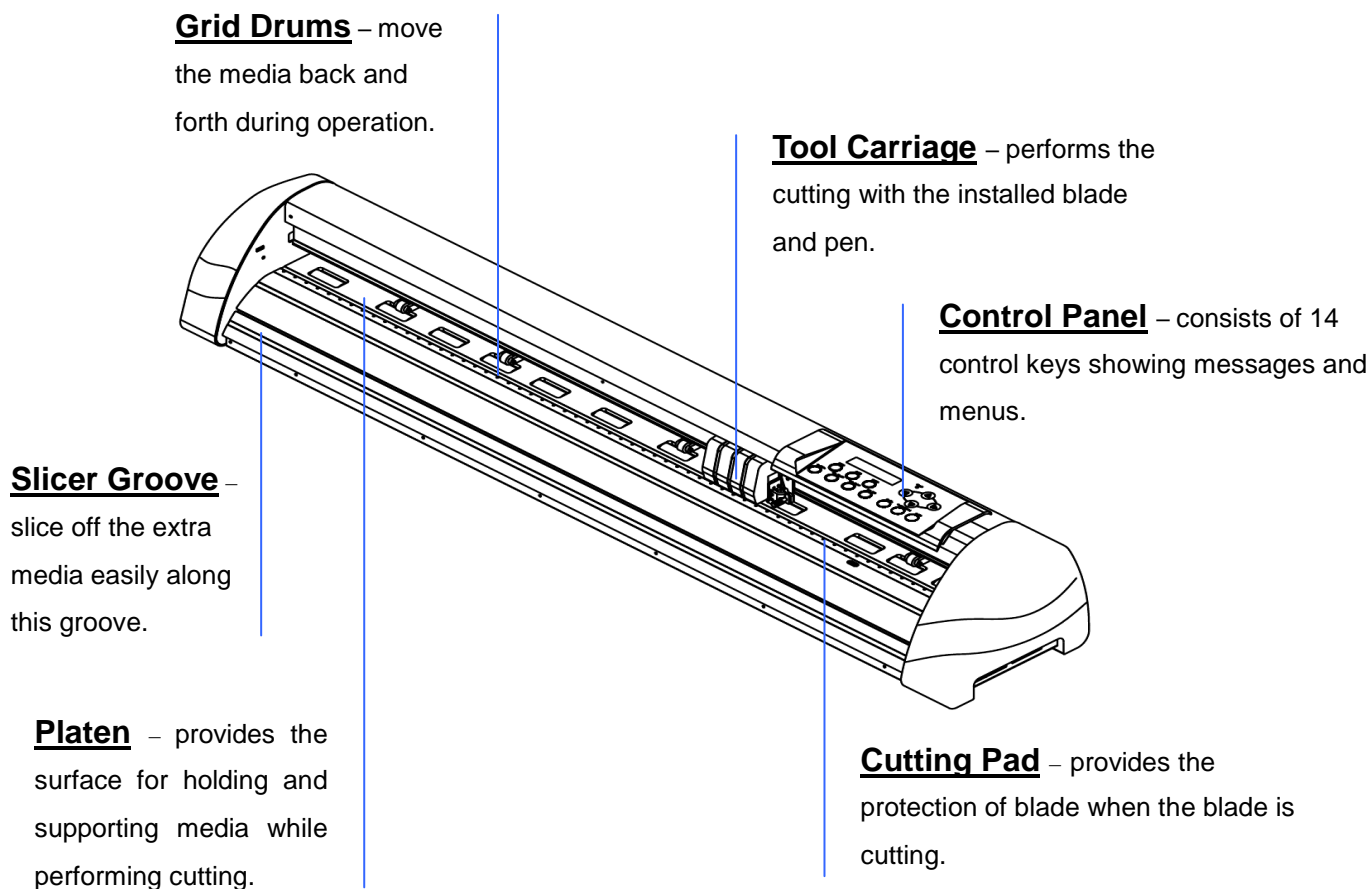

Figure 1-1
1.4 The Front View of Jaguar II(Figure 1-1)